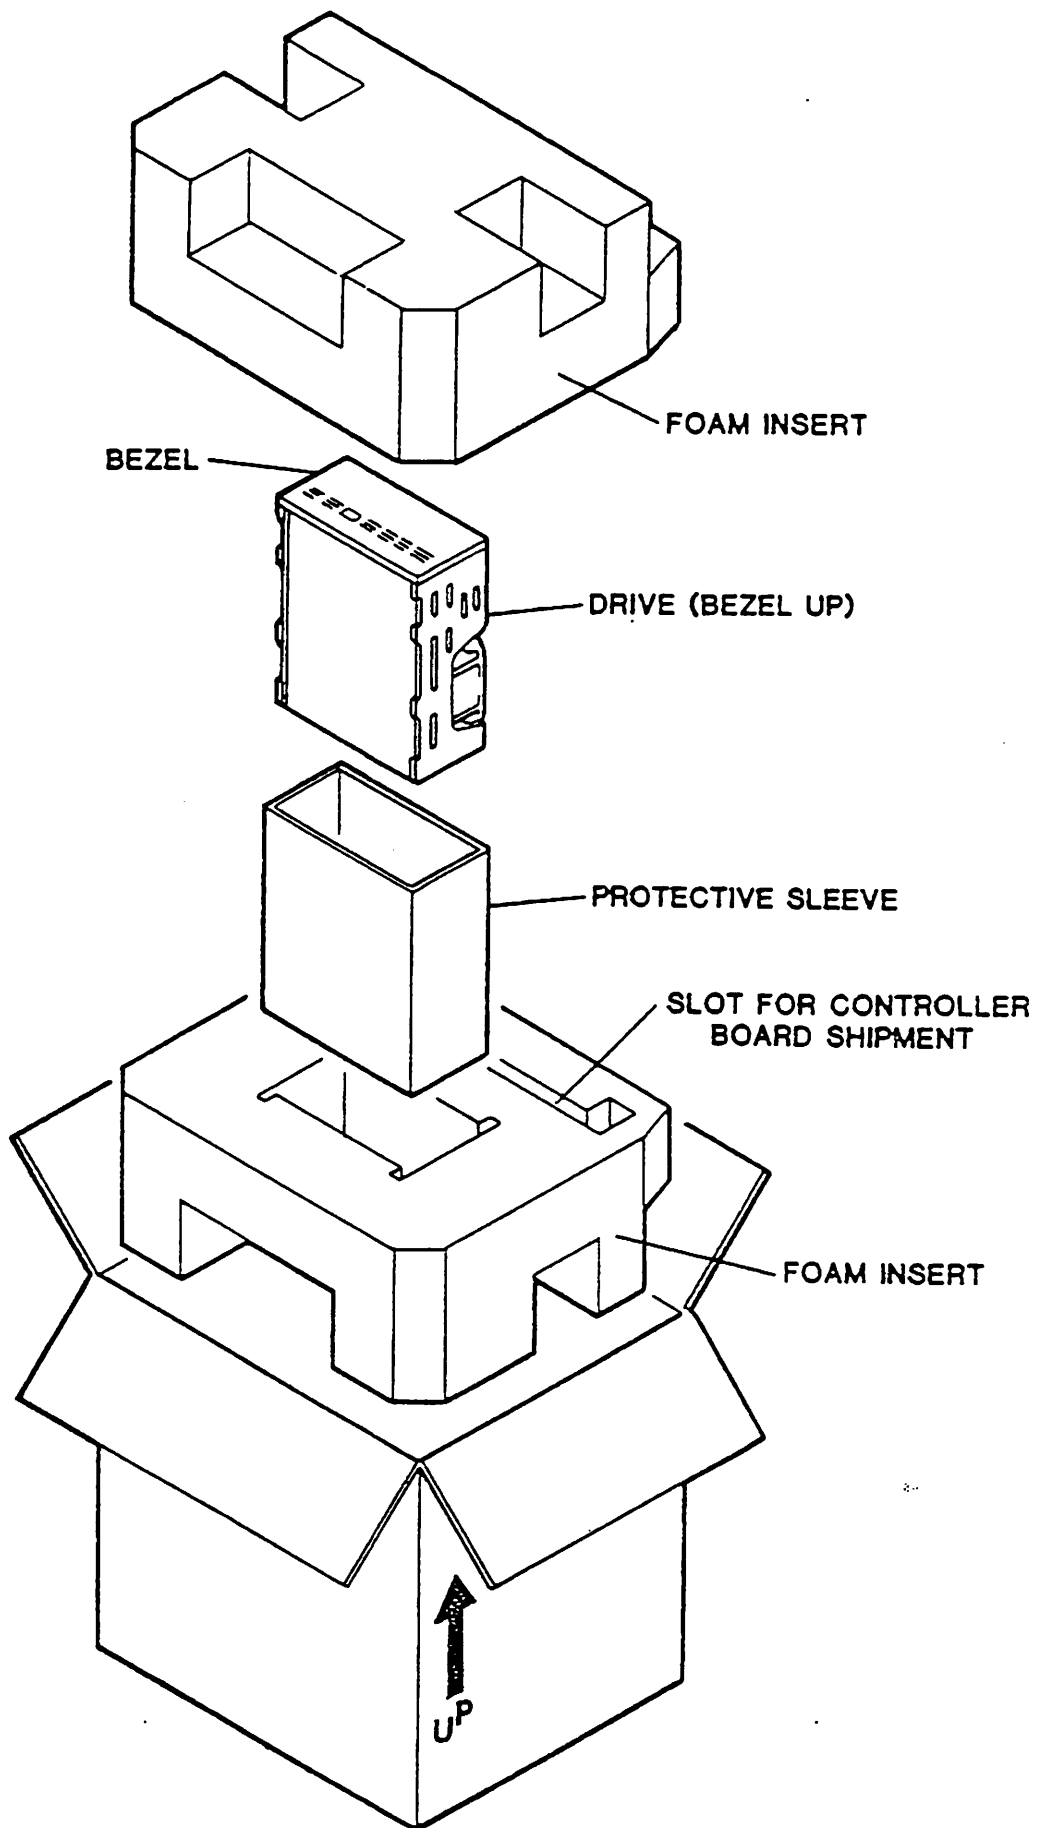

Figure 2-1. Shipping Container and Packaging
The IMI disk drive unit is shipped in a protective container, Figure 2-1, to prevent handling damage. Upon receipt of a unit from the shipper, carefully inspect the shipping container for damage. Report any damages to the carrier immediately. The warranty regarding reshipment of the unit requires that it be enclosed in the supplied container. Therefore, retain original packaging in case of later reshipment of the drive.
* Always pack the unit in its original shipping container with the BEZEL UP if it is to be moved any distance, Figure 2-1 unless it is installed in equipment that provides a protection which equals or exceeds that of the original container. The upper and lower foam inserts are identical and may be interchanged. No external restraints are required for shipment.